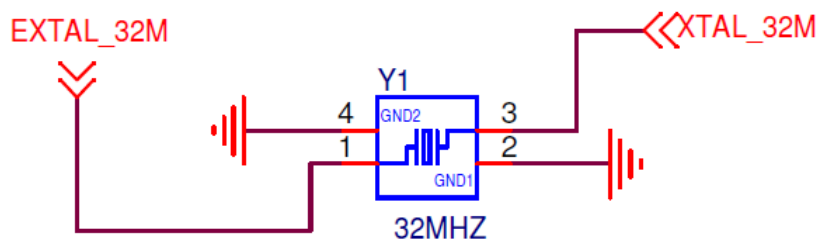

Figure 7. FRDM-KW41Z 32 MHz reference oscillator circuit
- **Figure 7** shows the 32 MHz external crystal Y1. The IEEE Std. 802.15.4 requires the frequency to be accurate to less than ± 40 ppm. The FRDM-KW41Z is equipped with a ± 10 ppm oscillator.